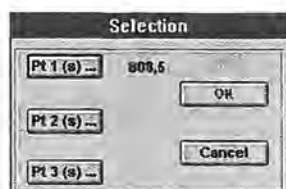

Figure 56 : Selection of points after one point is selected.
Once the point is selected, click on **OK** to validate or on **Delete** to delete it. Then the window shown on Figure 56 is recalled on the screen.
- **Modify integration** to modify the integration (back to the window shown on Figure 56 to modify the selected points).